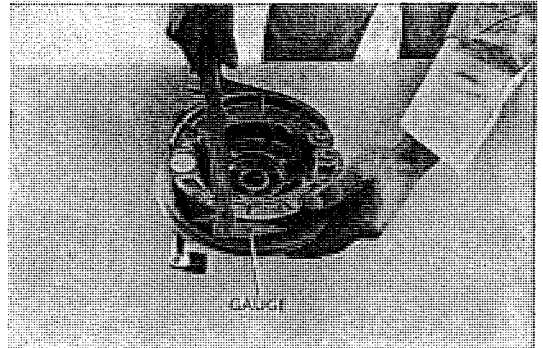

Fig. 4.88 Rear brake shoe measurement
7. Outside diameter and thickness measurement of the rear brake shoe. (Refer to Fig. 4.88)